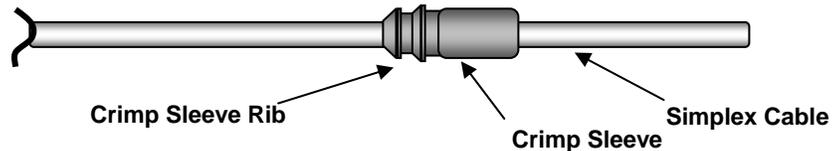

Figure 7-21 – Installing Wire Marker Sleeve and Crimp Sleeve
- Step 1 - Install the crimp sleeve, that is supplied with the terminus, over the simplex cable (single fiber cable). Ensure that the crimp sleeve is installed onto the cable rib side first. Slide the crimp sleeve back from the end of the simplex cable. See Figure 7-21.